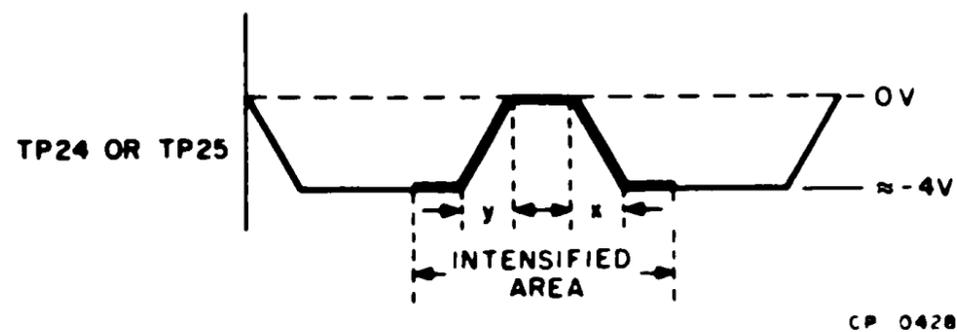

Figure 5-8 -12 Vdc Regulator Adjustment
4. Adjust the oscilloscope controls to obtain the waveform indicated in Figure 5-8. Intensity and Delay Time Multiplier may have to be adjusted to obtain this waveform. Now expand the sweep by adjusting the oscilloscope as follows: